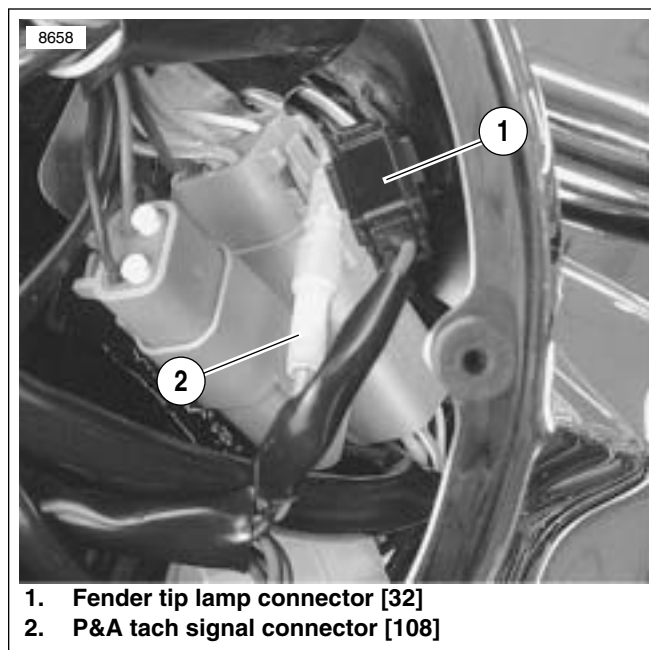
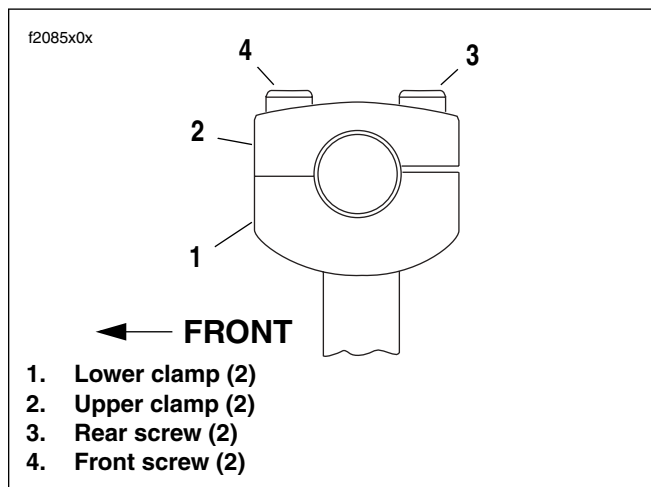

Figure 7. Tach Wire Harness Connectors
Figure 8. Handlebar Clamps
10. See Figure 7. Separate tach wire harness connectors [32, 108] (1, 2) inside headlamp nacelle.
12. See Figure 8. Loosen two rear handlebar clamp screws (3).
13. If there is a gap between either handlebar lower clamp (1) and upper clamp (2) at front, tighten front screw (4) only enough to close gap. If handlebars do not move freely, loosen rear screws until they do.
17. Feed tachometer cable assembly down between handlebars and headlamp nacelle. See Figure 7. Connect tach wire harness connectors [32, 108] (1, 2) inside headlamp nacelle.